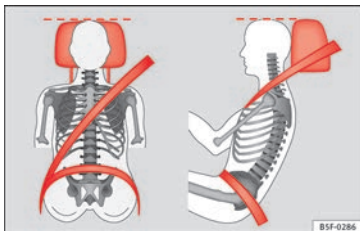

Fig. 86 Correctly adjusted head restraint as viewed from the front and the side.
- Adjust the head restraint so that its upper edge is, as far as possible, at the same level as the top of your head, or at the very least, at eye level » **Fig. 86**.